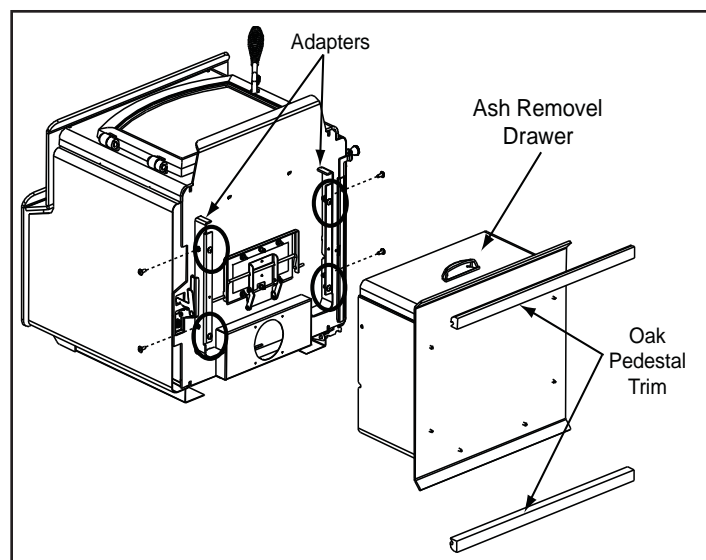

Figure 18.1
1. Slide pedestal over adapter on bottom of stove and secure with screws supplied with the kit. **Figure 18.1.**